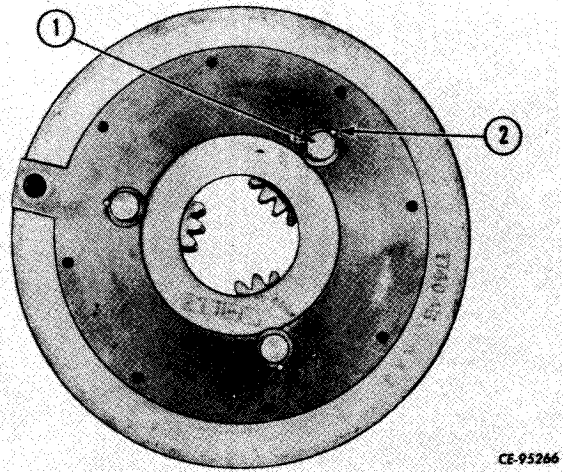

Figure 6-76
Pack the pinion shafts in dry ice to shrink them for easier installation. With the assembled pinions in position, install the pinion shafts (1, Fig. 6-76), aligning the dowel holes, and drive the shafts into position. Install the dowels (2) and drive into position against the shoulder of the shaft.